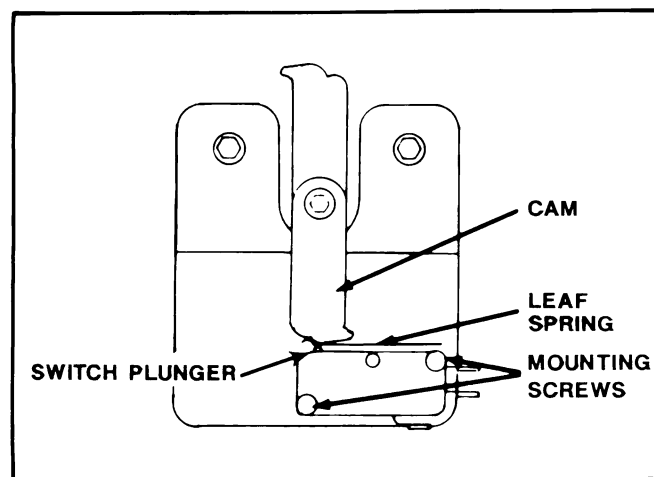

Figure 6-12. Cam Switch Adjustment
1. Check that the plastic cam leaf spring is resting in the cam lobes and that the switch plunger just touches the bottom of the leaf spring as shown in *figure 6-12*.
2. To adjust the switches, loosen mounting screw under plunger end and move the switch housing as described in the previous step (see *figure 6-12*).